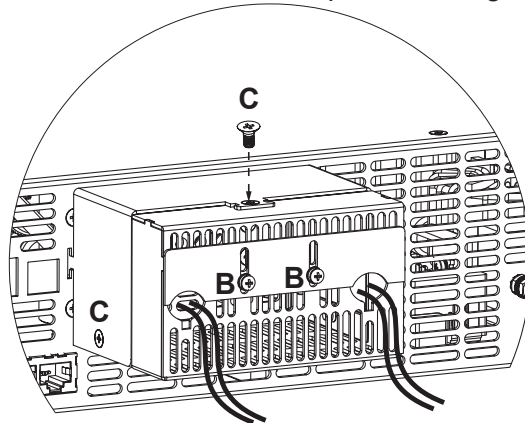

Fig.3-10: Enclosure assembly
6. Assemble the enclosure bottom cover to its place, as shown in Fig.3-10, using screws "C", 3 places (tightening torque 4.8-5.3 Lb-inch).